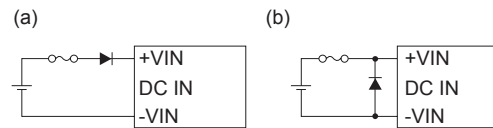

Fig.3.3 Reverse Input Voltage Protection
■ Avoid applying reversed-polarity voltage to the power module as it will damage the power module. To protect the power module from reversed polarity voltage, installing an external diode as shown in Fig. 3.3 is recommended.